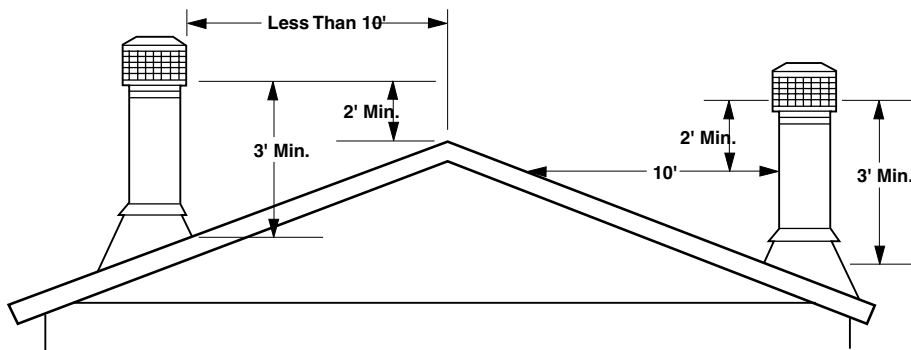

Figure 6
8. *Figure 6* illustrates the correct height of your chimney top. It is unlikely that your installation does not adhere to the installation instructions. However, if not correct, you could experience an unusual downdraft. Usually, the best solution is to increase the chimney height. This may also be necessary if nearby trees, adjoining roof lines or a hill is causing a downdraft condition.